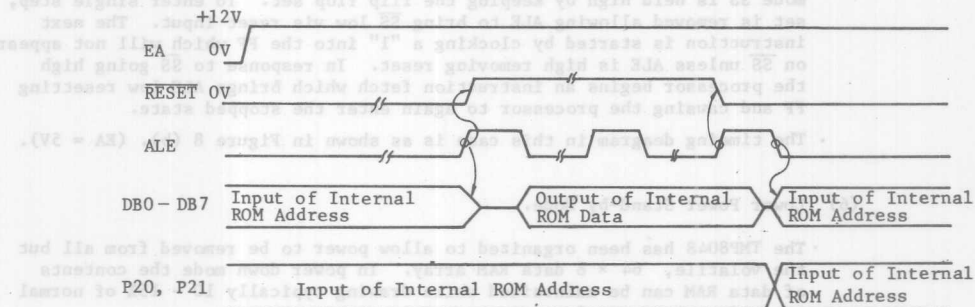

Fig.7 Timing of Reading Internal Program Memory
(4) Reading of Internal Program Memory
- Figure 7 illustrates the timing diagram for this operation.
(5) Single Step Operation.